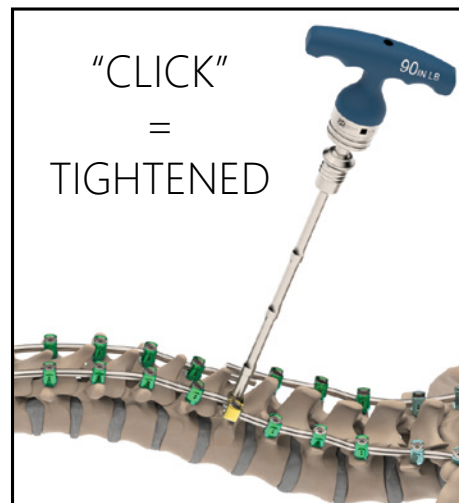

Figure 7.2
2. Perform final tightening by attaching the Final Driver to the same 90 in-lb Torque Limiting Handle utilized for the Set Screws and rotate clockwise until an audible “click” is heard and tension is released within the handle (Figure 7.2).